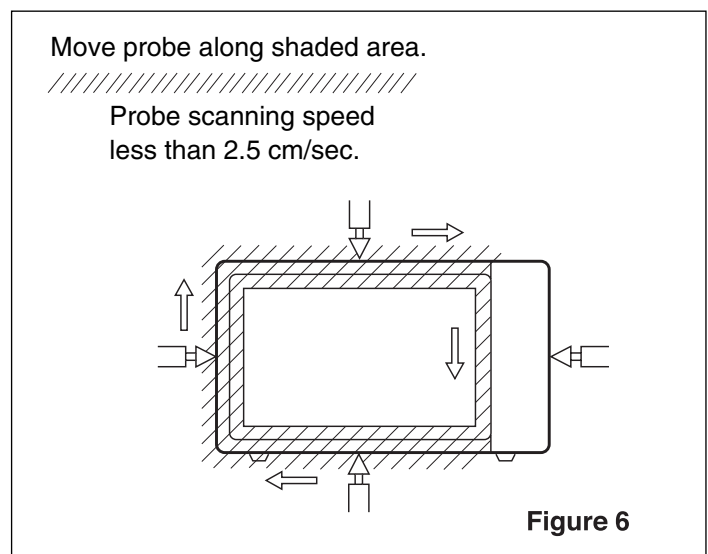

Figure 6
- (1) Pour 275±15cc of 20±5°C water in a beaker which is graduated to 600 cc, and place the beaker in the center of the oven.
- (2) Set the energy leakage monitor to 2450 MHz and use it following the manufacturer's recommended test procedure to assure correct result.
- (3) When measuring the leakage, always use the 2 inch (5cm) spacer supplied with the probe.
- (4) Operate the oven at its maximum output.
- (5) Measure the microwave radiation using and electromagnetic radiation monitor by holding the probe perpendicular to the surface being measured. (See Figure 6)